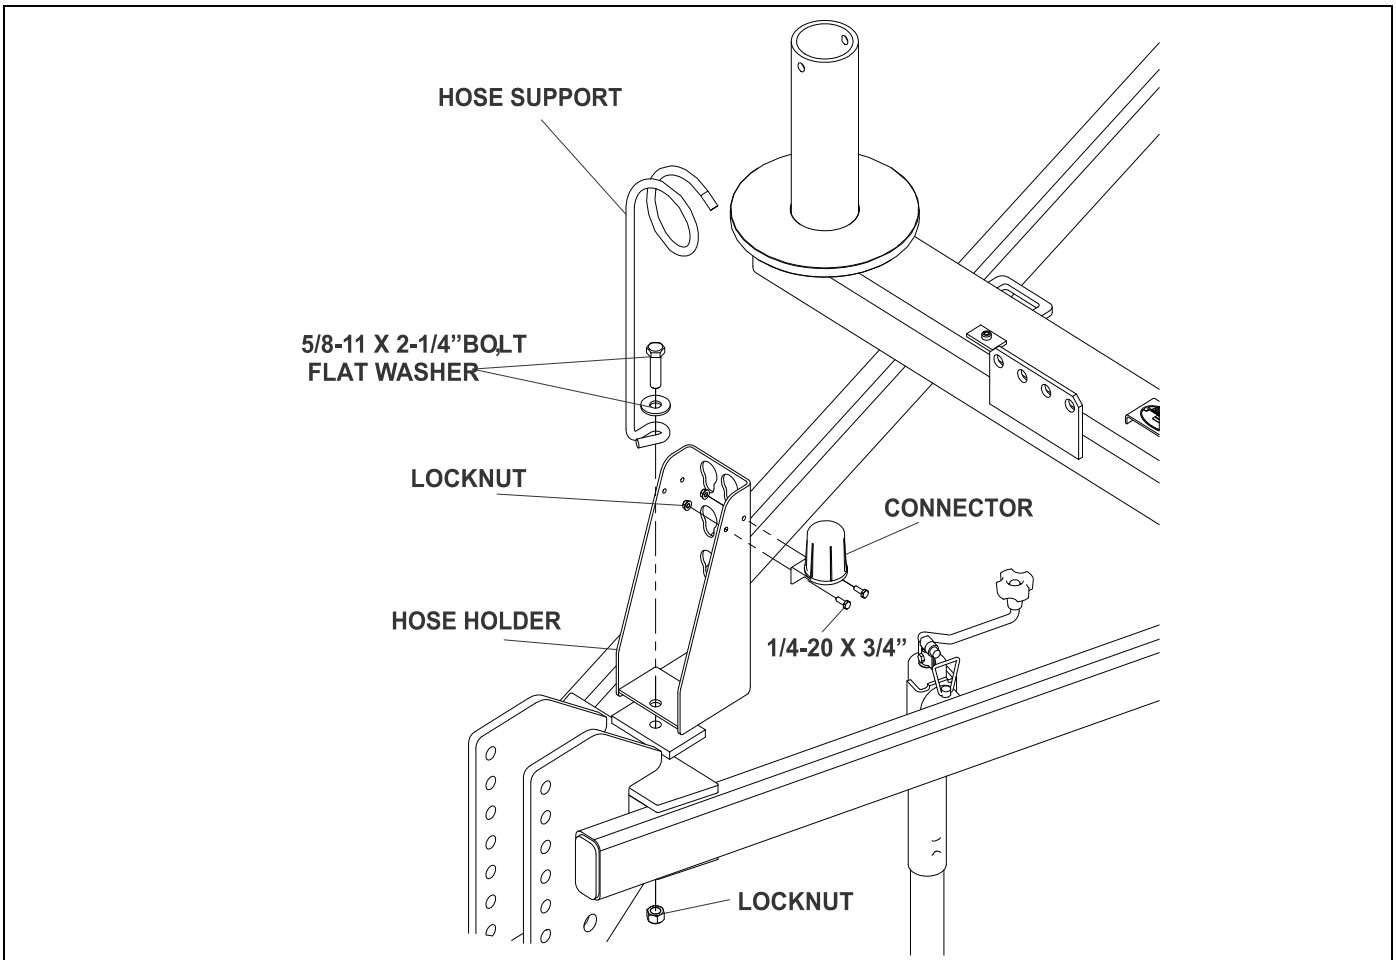

Figure 2-2: Drawbar Assembly
6. Attach Hose Holder and Hose Support with a 5/8-11 x 2-1/4 Hex Capscrew, Flat Washer and Locknut. See Figure 2-2.